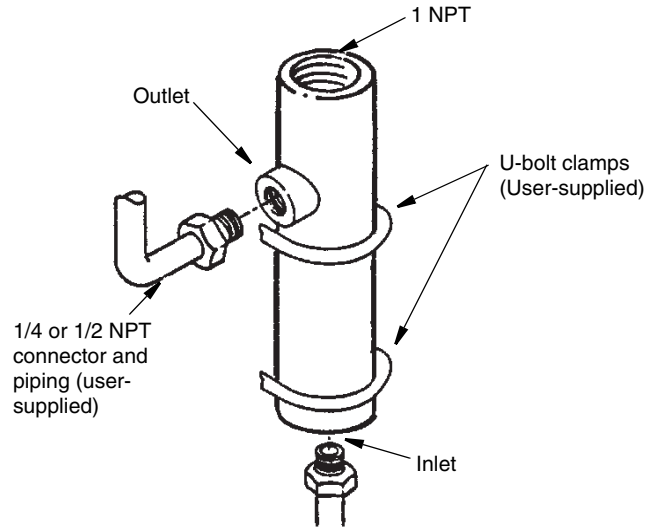

Figure 5. Flow Chamber Installation
2. Mount the flow chamber and connect the two ¼ NPT or ½ NPT user-supplied connections (see Figure 5).